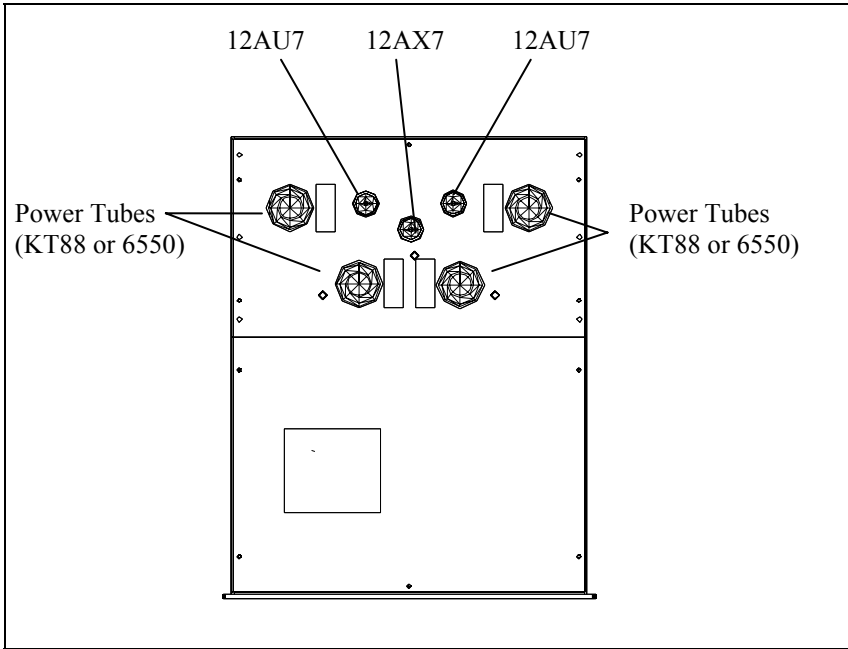

Figure 3
- 4) *Align Tubes* - Using a glove or a clean dry cloth, straighten any tubes that may have tilted during shipment as shown in figure 3. Ensure that tubes are fully seated in their ceramic sockets.
- 6) Obtain and insert a new set of tubes. It is recommended that a new set of tubes be obtained from Rogue. If tubes are obtained from another source, follow the diagram in figure 3 for tube type.
- 7) Insert new tubes in sockets using a glove or cloth. See figure 3 for locations.
- 1) Ensure tubes are in proper locations. See Figure 3.